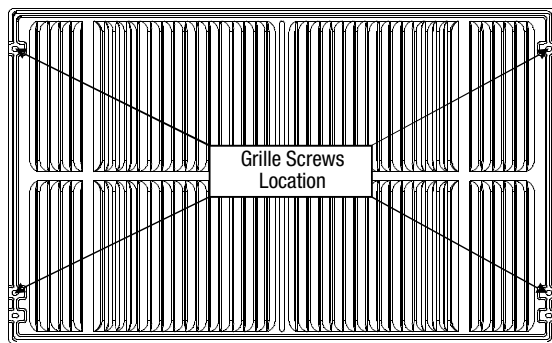

FIG. 2
4. If the unit has not been pre-drilled (some models), carefully drill 4-1/8" holes through the grille and into the side flange of the unit approximately 1 1/2" to 2" from the top and bottom as in Fig. 2 and Fig. 3. (Be careful not to drill into copper heat exchanger coils).